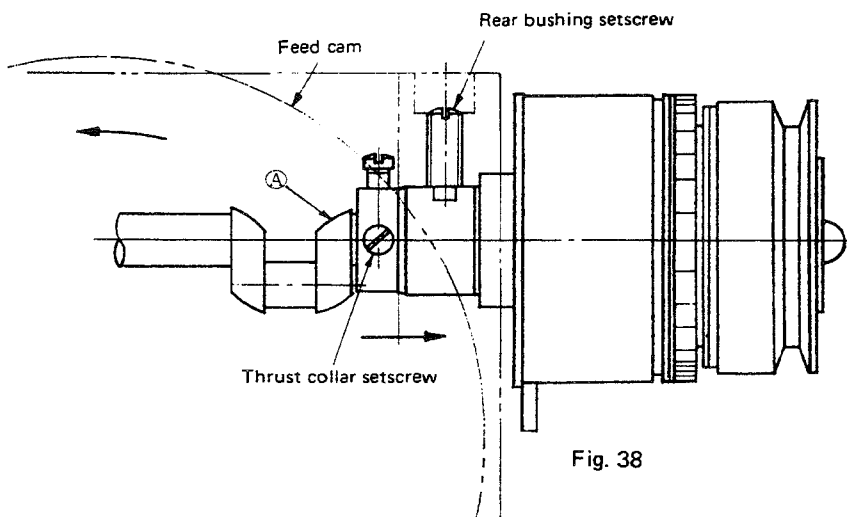

Fig. 38
- 3) Set the feed cam driving worm free by loosening the setscrews and remove each setscrew of the counterweight, thrust collar and main shaft rear bushing. Do not forget to remove the screws from the main shaft rear bushing, because these screws have been screwed into the countersunk part of the bushing as shown in Fig. 38.
- 5) Press a brass rod against face  $\text{\textcircled{A}}$  and tap it so that the main shaft comes out (Fig. 38).
- 1) When the main shaft becomes loose in its axial direction after a long period of operation, it will affect the timing of the feed and thread tension release actions. To eliminate this, move the thrust collar in the direction of the arrow while rotating the feed cam in the same direction (Fig. 38).